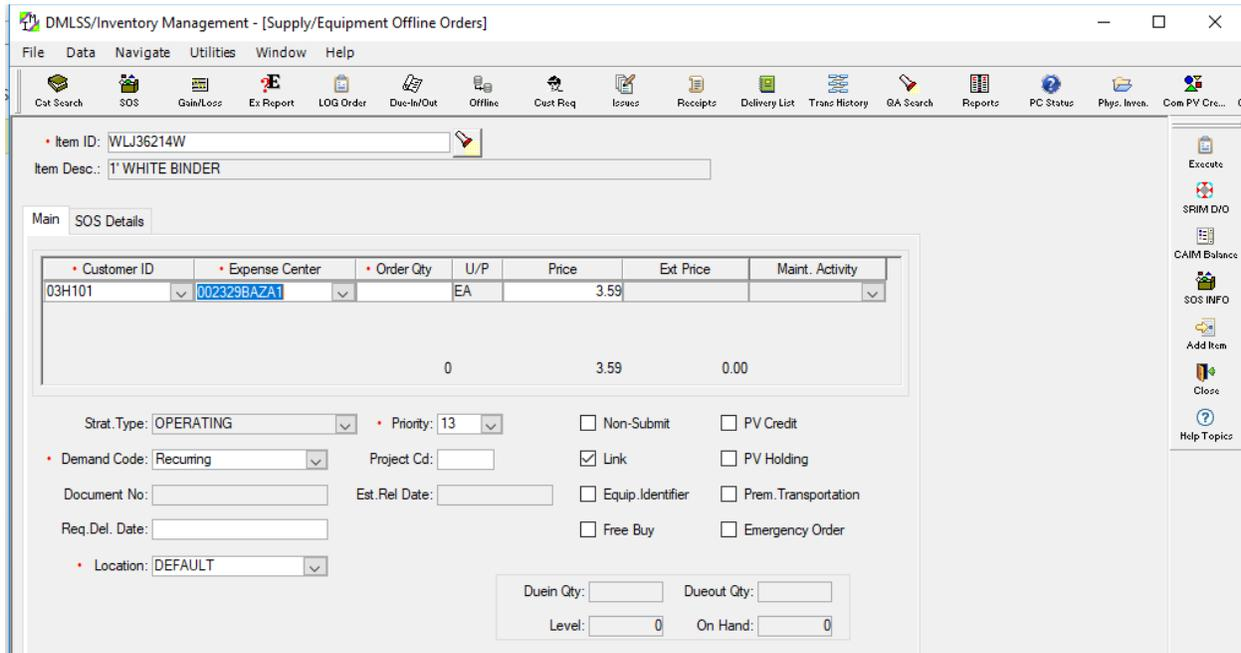

Figure 22: Offline Orders, MAIN Tab
1. Enter “Item ID” or click the flashlight icon to search. After selecting an item ID, the unit of packaging (U/P) and price is populated on the MAIN tab. The following items are located on the MAIN Tab (Figure 22).